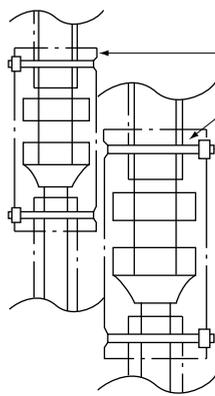

Fig. 13
- After leakage check of piping connection is finished, carry out thermal insulation. (**Refer to Fig. 13**)
- Carry out thermal insulation of both liquid and gas pipes with the attached insulation for fitting (5) and (6). (Tighten both ends of the insulation for fitting (5) and (6) with the clamp (8).)
- Braise the refrigerant piping only after having nitrogen flow through the pipe and substituting nitrogen for air (**Refer to Fig. 17**). Once this is completed, connect the indoor unit with flares (**Refer to Fig. 13**).